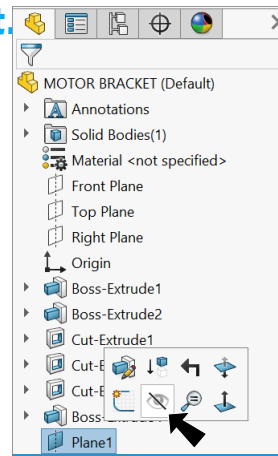

Fig. 47
Step 1. **Hide Plane1** . To hide, click **Plane1**  in the Feature Manager and **Hide**  on the context toolbar, **Fig. 47**.